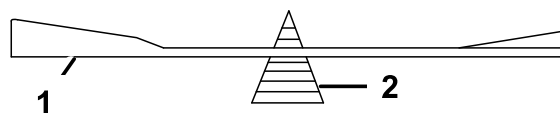

Figure 72
2. Check the balance of the blade by putting it on a blade balancer (Figure 72).